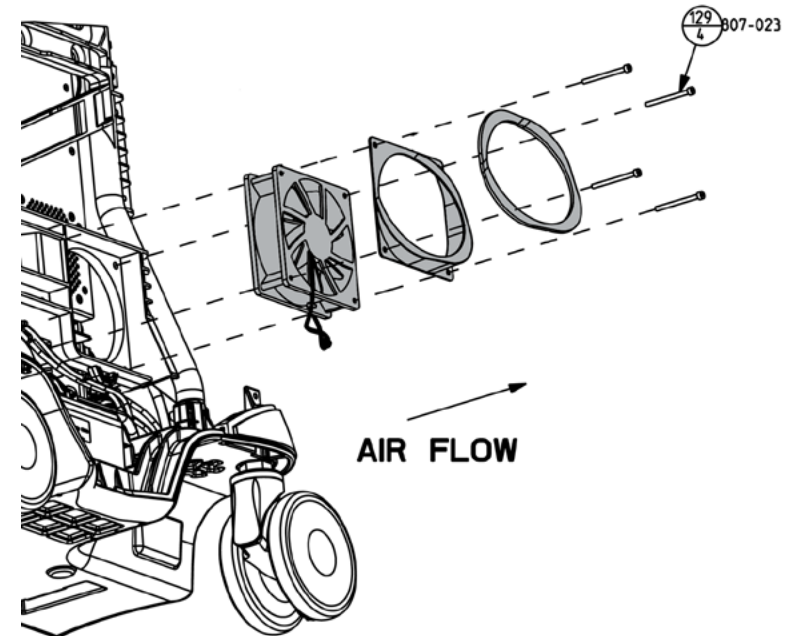

Figure 3-38 Lower Fan Assembly Removal
- 35.3 Remove four 3 mm hex screws securing fan and duct to chassis (see Figure 3-38). **NOTE: Fan is still connected to MFIO PCB by cable.**